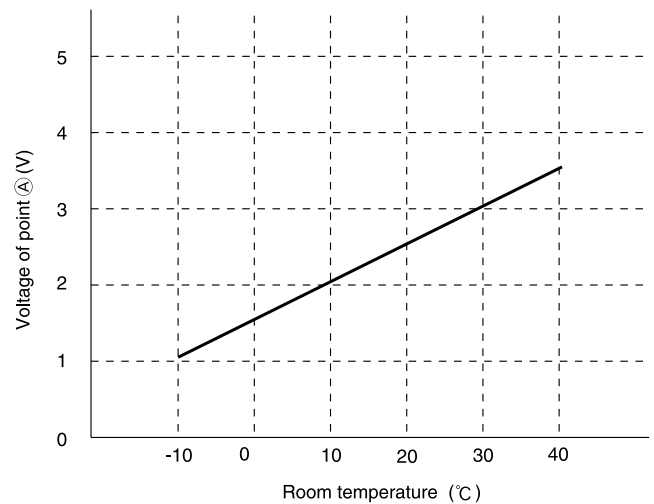

Fig. 4-2
- (1) Preheating
- (2) Low-temperature defrosts at cooling·dehumidification operation time.
- (3) Not working of reversing valve or detection of opening of heat exchange thermistor is controlled.
According to heat exchange temperature, the voltage of point (A) becomes as it is shown in Fig. 4-2.